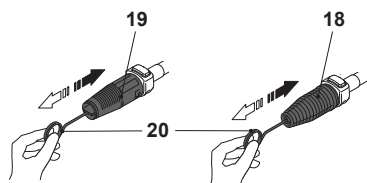

Fig. 23
Remove any dirt deposits from the nozzle (18/19) hole using the cleaning needle (24) (Fig. 23).